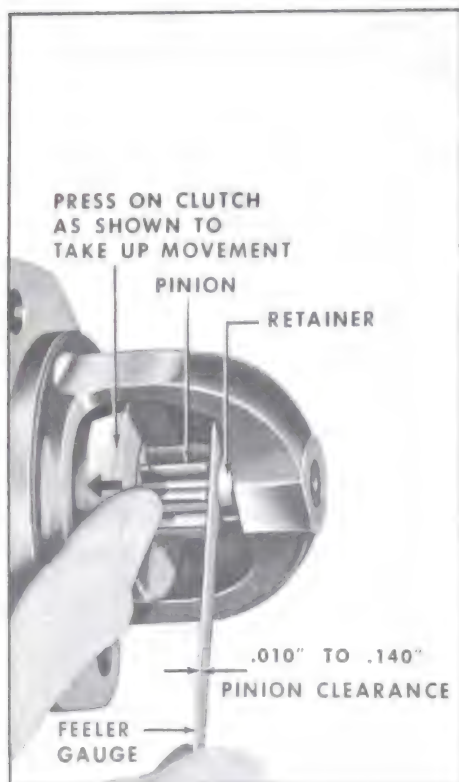

Figure 10-31—Checking Pinion Clearance
2. After energizing the solenoid, push the pinion away from the stop retainer as far as possible and use feeler gauge to check clearance between pinion and retainer. See Figure 10-31.